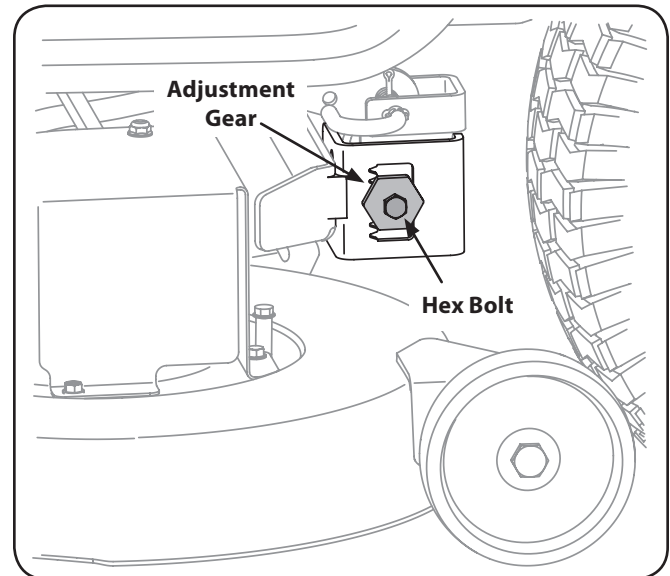

Figure 6-5
3. Loosen, but do NOT remove, the hex bolt on the left deck hanger bracket. See Fig. 6-5.
4. Using a wrench, raise or lower the left side of the deck by turning the adjustment gear. See Fig. 6-5.